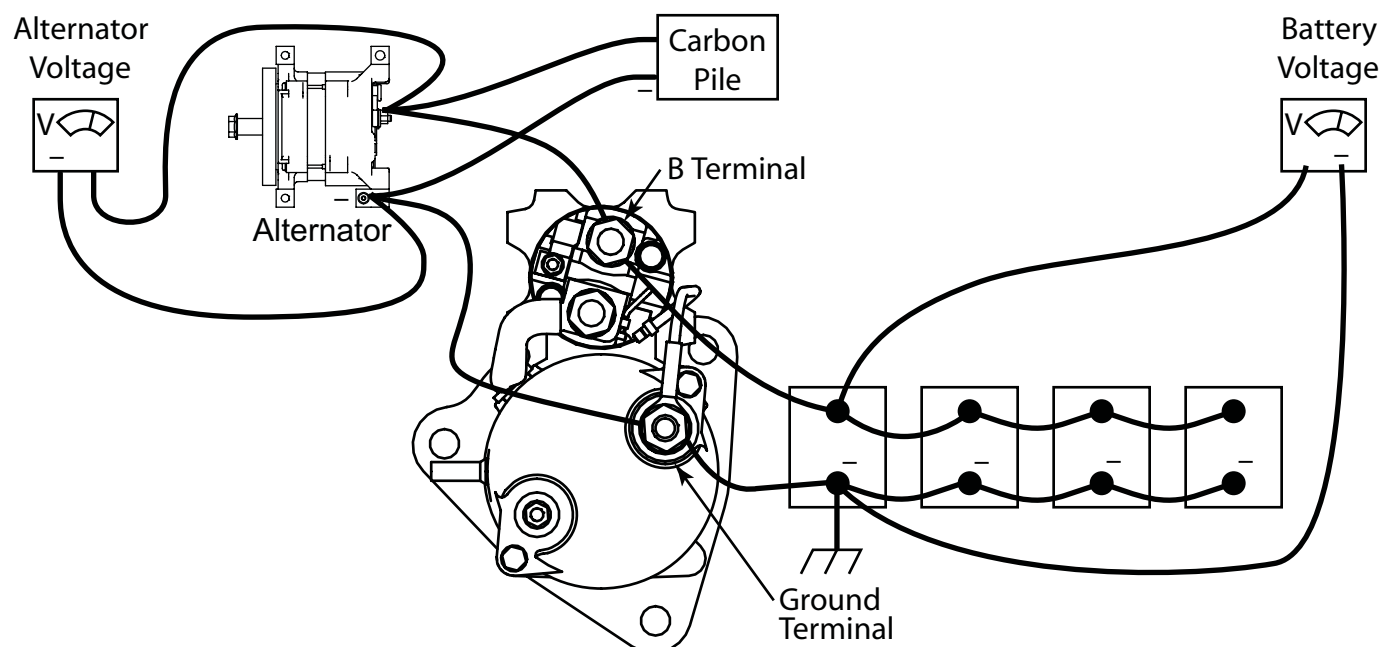

Figure 17: Step 3A – Main Cable Check
- 1) With engine off, connect carbon pile load tester to alternator's B+ and B- terminals as shown in Figure 17
- 3) Using the wiring configuration in Figure 17, obtain: